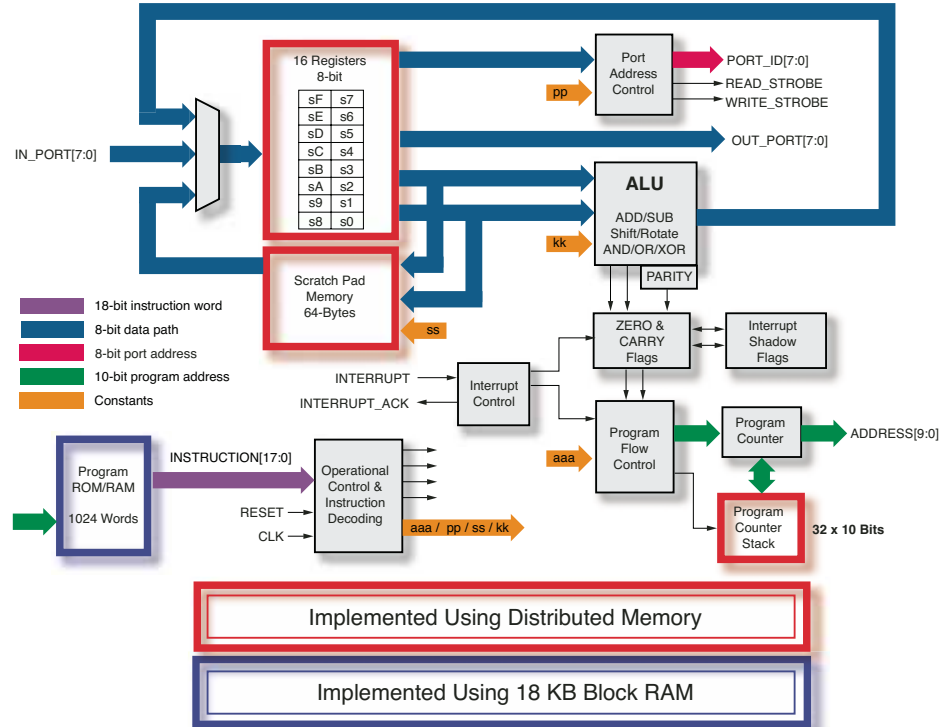

Figure 2 – The 8-bit PicoBlaze microcontroller takes only 192 logic cells by making effective use of Spartan-3/3E memory resources.
The advantage of having distributed memory is that you can very efficiently implement any design that requires a large number of smaller size memory structures without running out of registers or block RAMs, offering the potential for unrivaled data bandwidth. A good example of this is the 8-bit PicoBlaze™ microcontroller, which takes only 192 logic cells (LC) within the Spartan-3/3E architecture. As shown in Figure 2, this is possible only because the register stack, scratchpad memory, program counter stack, and program ROM are constructed using the FPGA memory resources.